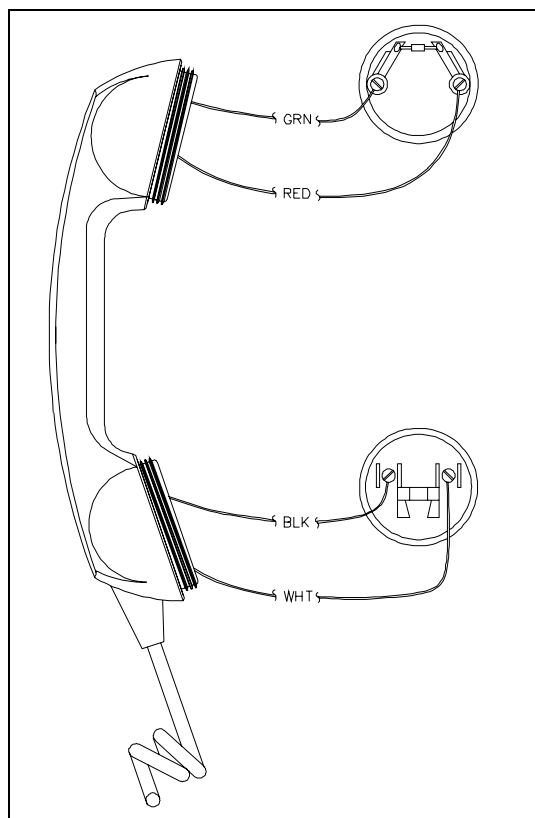

Figure 1. Handset Wiring Details
3. Connect the black and white wires to the transmitter. Replace the transmitter, transmitter cup, and cap. See Figure 1. Note the notch on the transmitter cup. When placing the transmitter cup in the handset, align the notch to catch the bushing on the coil cord to secure the cord firmly in the handset.